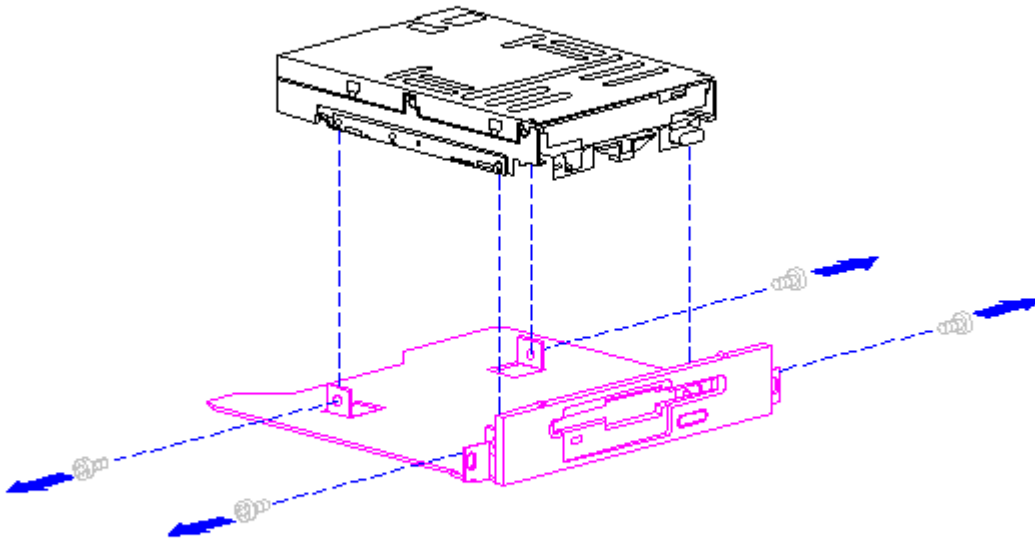

Figure 5-29. Removing the Mounting Bracket from the Diskette Drive
8. Remove and retain the diskette drive mounting bracket with bezel attached (Figure 5-29). The bracket is secured in place with four screws.